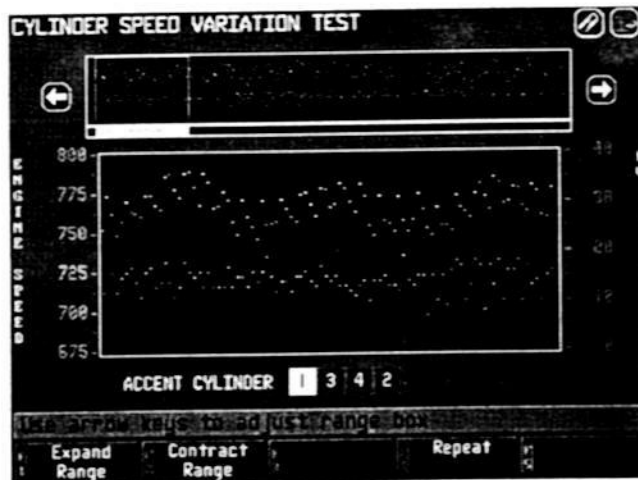

Figure 3-38
- Follow the screen prompts and run the engine at the specified RPM. After the analyzer gathers the test data and processes the results, the "Cylinder Speed Variation Test" screen appears (see Figure 3-38).